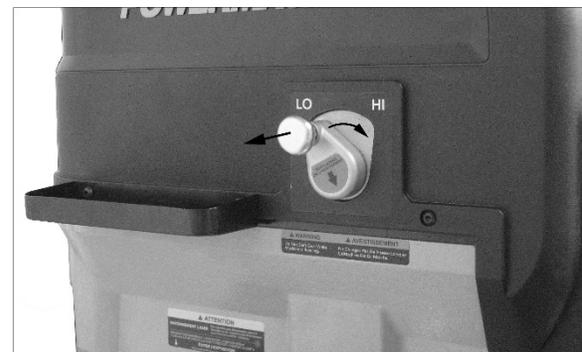

Figure 9-2
Hi-Lo speed selector – (J) and Figure 9-2. Pull out on the handle and rotate selector to desired setting. Release the handle, making sure its pin falls into the detent within the head.